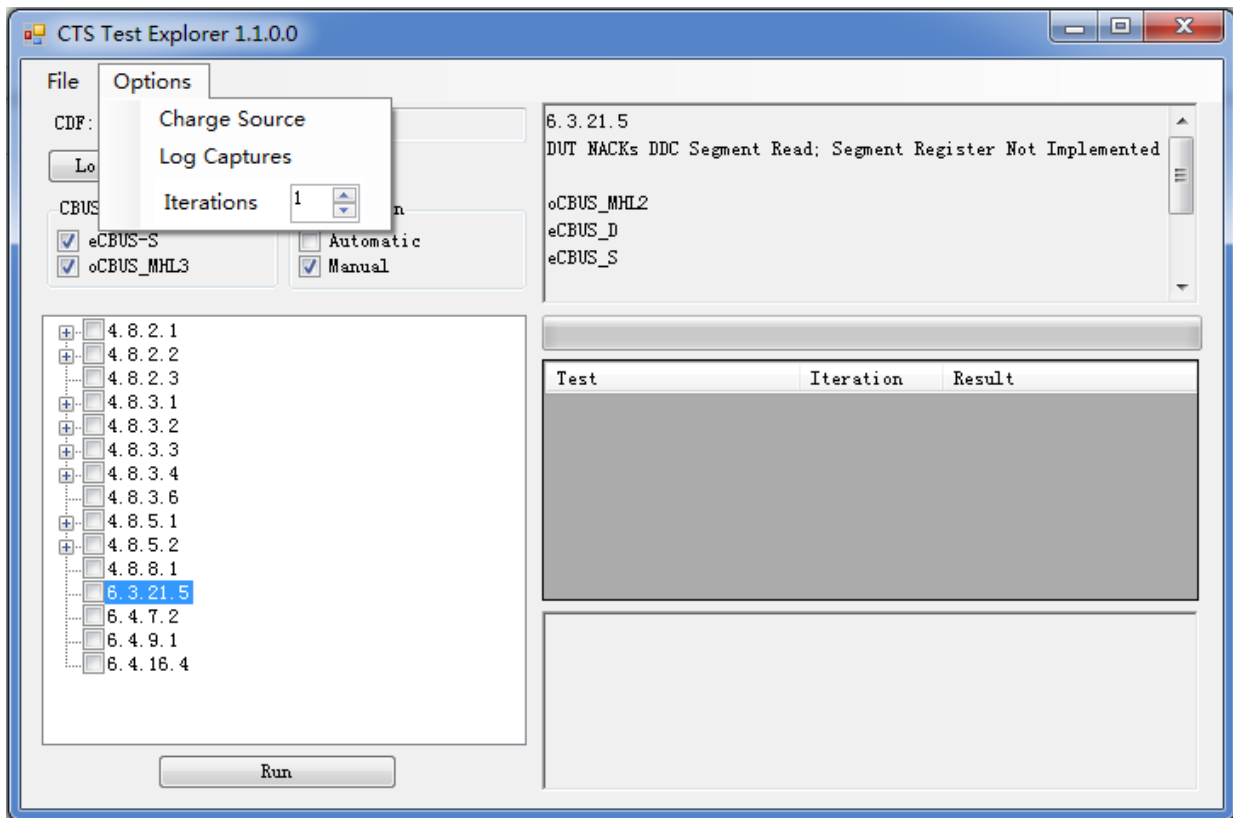

Figure 3.3. Options Menu
5. The log files are stored in the same folder as that of the CDF (Figure 3.3).
The Options menu gives you additional control while running test. See Figure 3.3 and Table 3.1.